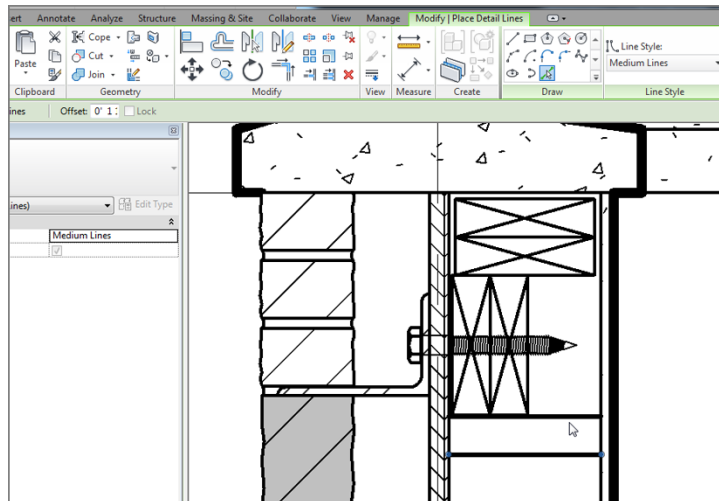

FIGURE 12.49: Offsetting the line down 1 1/2" (38mm) to create a second line
7. Change Offset to 1 1/2" (38mm), as shown in Figure 12.49.
8. Offset the line you just drew down 1 1/2" (38mm) (see Figure 12.49).